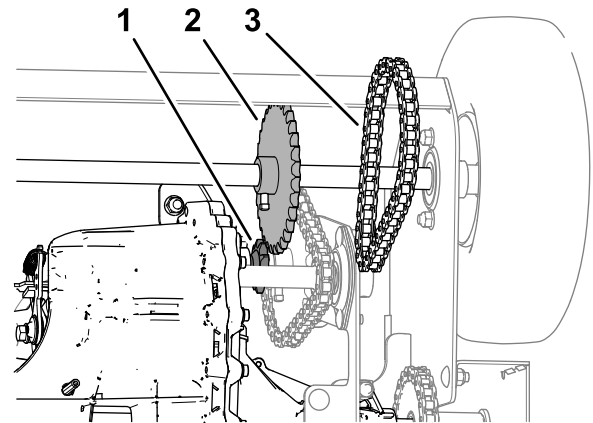

**Figure 52**
2. Loosen the flange locknut and capscrew that secures the belt idler pulley to the frame of the machine, move the idler pulley inboard, and remove the belt from the transaxle pulley (Figure 51 and Figure 52).